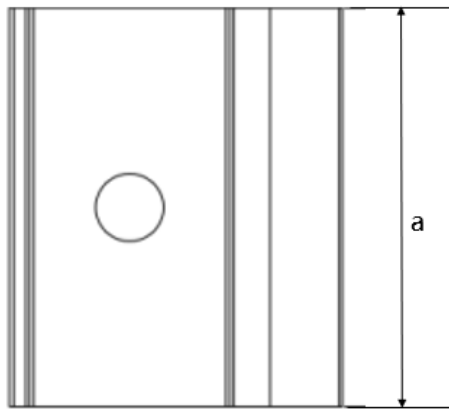
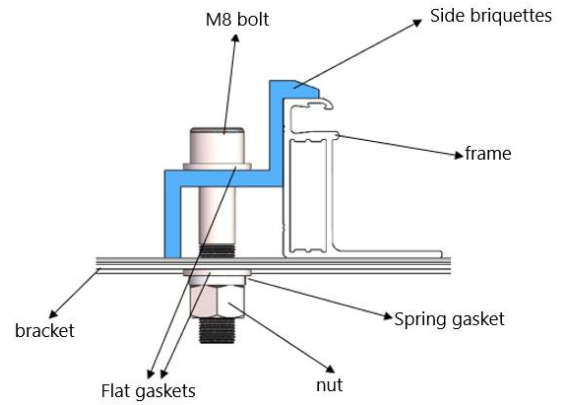

Fig. 7 Top view of fringe clamp
Fig. 9 Installation schematic diagram of fringe clamp
- ① Place the module on the two supporting rails (not provided by Astronergy) which should be made with stainless material and treated with an anti-corrosion process (e.g. hot dipped galvanizing). Each PV module needs at least four clamps to be fixed. The module clamps should not come into contact with the glass and should not deform the frame, otherwise they may cause module damage.
- ② Be sure to avoid shadowing effects from the module clamps. Weep holes on the module frame must not be closed or obscured by the clamps. The clamp must have at least 8mm but no more than 11mm overlap with the frame of the module (The clamp section can be changed under the premise of ensuring reliable installation).
- ③ The top surface of the rail contacted with module frame should be equipped with grooves compatible with an M8 bolt.
- ④ If the grooves are not provided, holes of a suitable diameter may need to be drilled to allow bolts attaching to the rail at the same locations as mentioned above.
- ⑤ Ensure that the mounting sequence of each clamp is in the order of flat washer, spring washer and nut.
- ⑥ Figures 7 and 8 show the schematic diagram of the clamp, while Figures 9 and 10 show the installation schematic diagram of the clamp. The dimensions of the clamp are $a \geq 40$ mm, $b \geq 16$ mm, $c \geq 5$ mm, $d \geq 8$ mm, $e \geq 15$ mm, $\varnothing = 9$ mm, and the thickness of the clamp is ≥ 3 mm. For module of 182/210mm-wafer, the size of mid and fringe clamp must meet $a \geq 60$ mm. The tightening torque is suggested to be 17~23Nm for Class 8.8 screw and bolts.